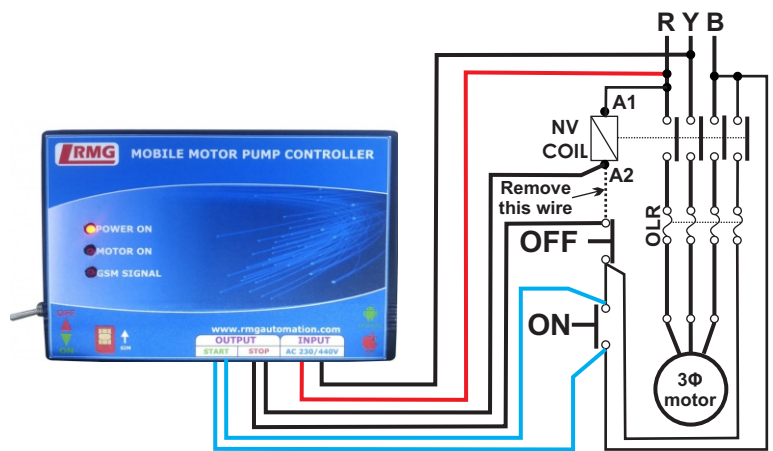
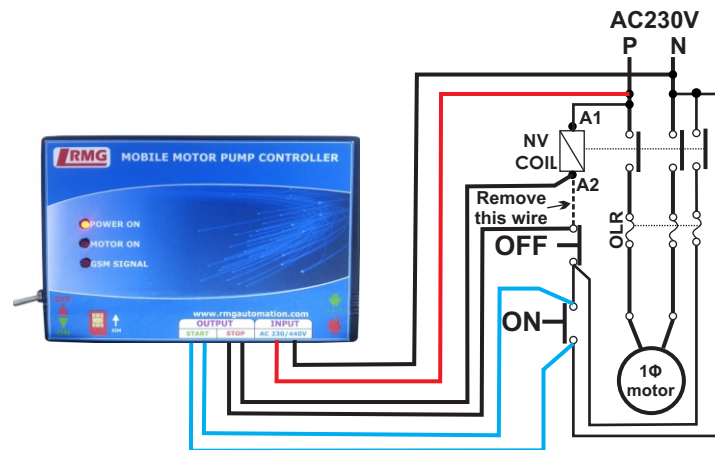

Figure2: 3Φ Starter
Figure3: 1Φ Starter
**Step 5:** For starter, Connect blue pair wires to ON button of starter in parallel and black pair wires to OFF button in series (Refer to figure. 2 and figure. 3)